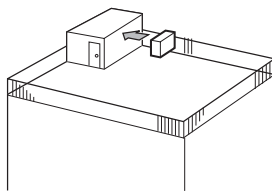

Fig. 1-4
- ① Face the air outlet towards the nearest available wall about 35 cm away from the wall. (Fig. 1-4)